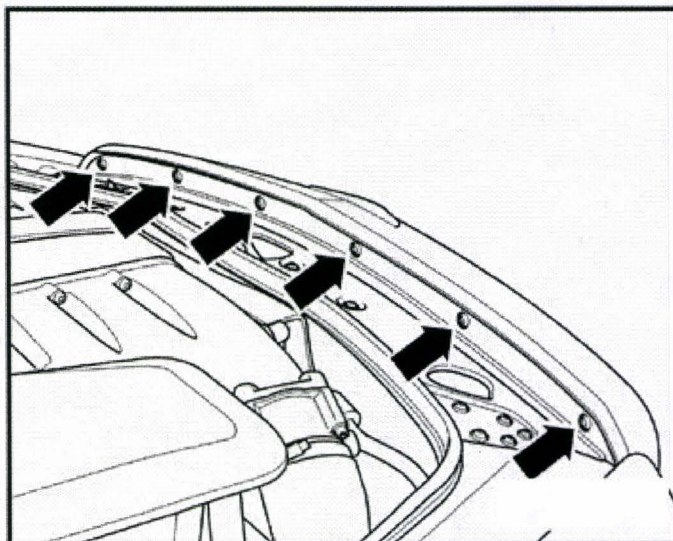

Figure 1
1. Remove the six top radiator shell to securing strip fixings (Figure 1)
- 3. Refit the radiator shell into position and secure the six screws (Figure 1) to 3.5 Nm